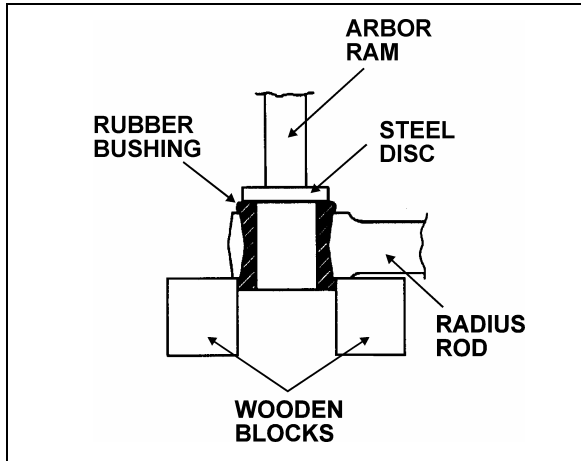

FIGURE 7: RADIUS ROD BUSHING REMOVAL
1. Safely support the radius rod as shown in figure 7.
2. Place a flat steel disc, slightly smaller than the outside diameter of the bushing (Fig. 7).